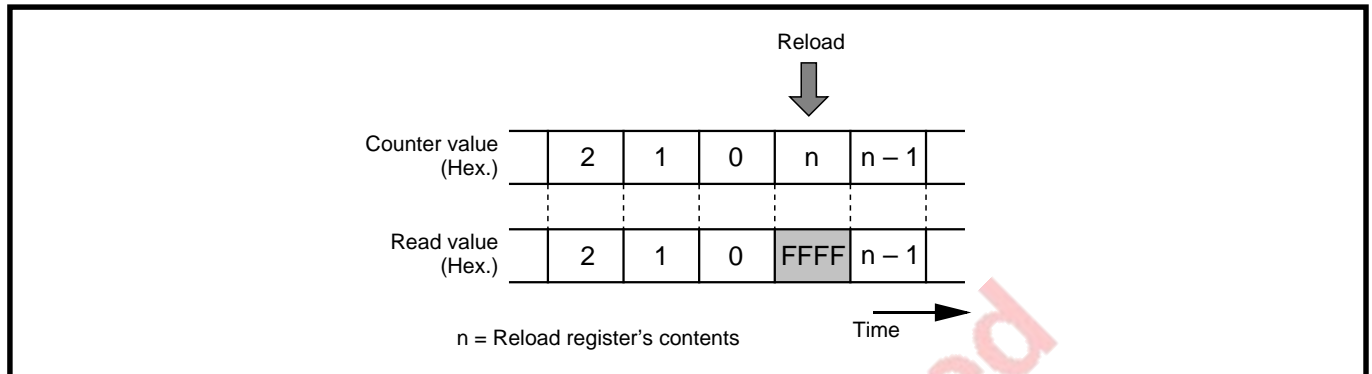

Fig. 7.4.7 Timer Bi register read out
1. While counting is in progress, by reading out the timer Bi register, the counter value can be read at an arbitrary timing. However, when reading is performed at the reload timing shown in Figure 7.4.7, value “FFFF16” is read out. If reading is performed in the period from when a value is set into the timer Bi register with the counter stopped until the counter starts counting, the set value is correctly read out.